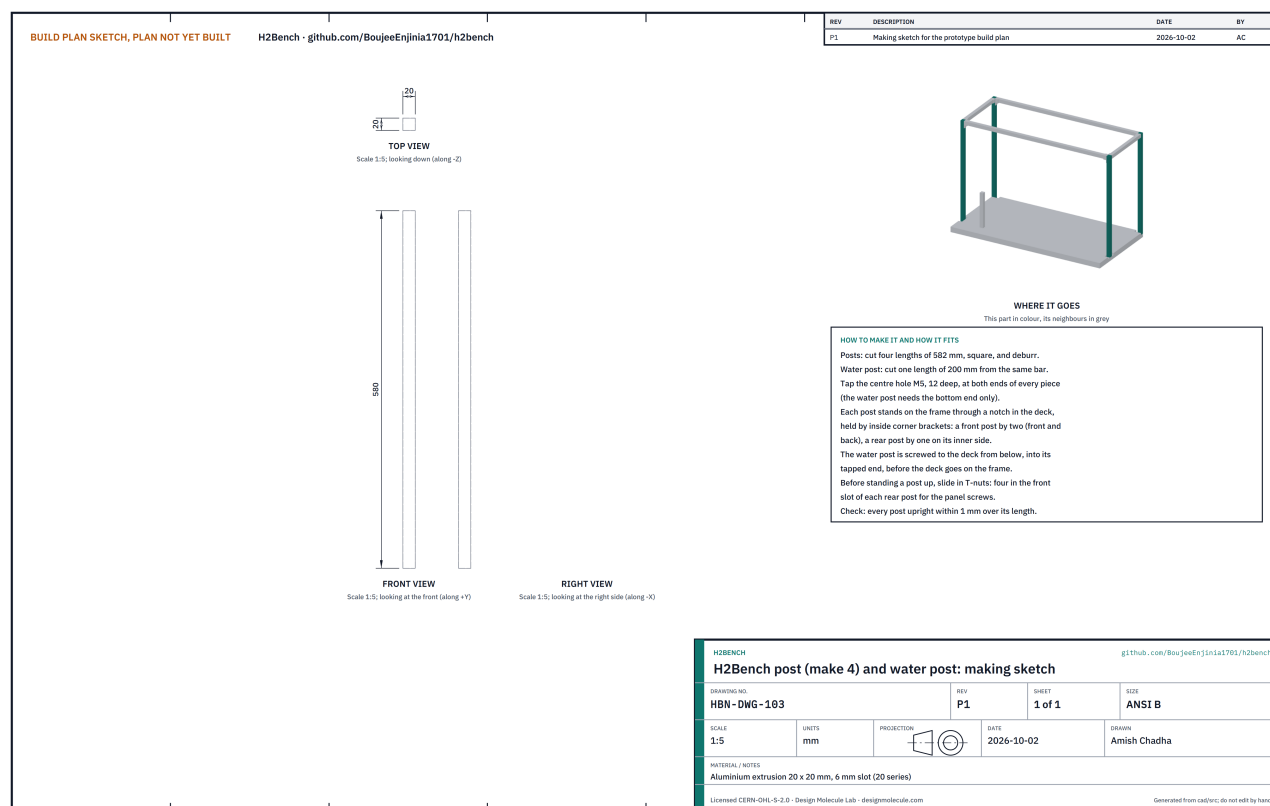

Figure 5. Post and water post making sketch (HBN-DWG-103).
5. Drill one 5.5 mm hole, countersunk from below, 146 from the left end and 80 from the front edge, and screw the water post (Figure 5) to the deck through it, into its tapped end.